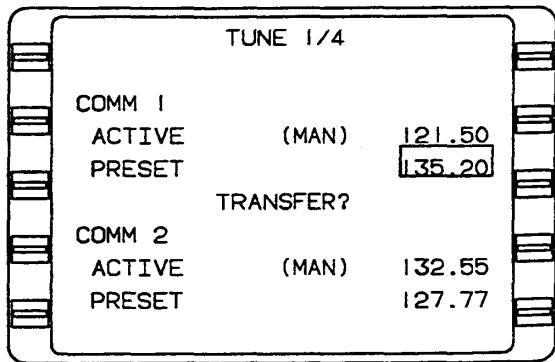

Figure 3A-44. Tune 1/4 Page (COMM)
(1) *Tune 1/4 Page, Comm.* Refer to Figure 3A-44.